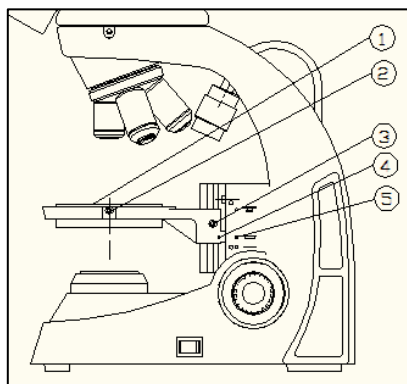

Fig 23
Put the culture dish① into the holder, use a hexagonal wrench lock the screw②. Adjust coarse focusing wheel to lift the holder to the top position, loose the screw③ to move the holder, and then lock the screw③ when the mark ④ and ⑤ are horizontally aligned. (See Fig.23)